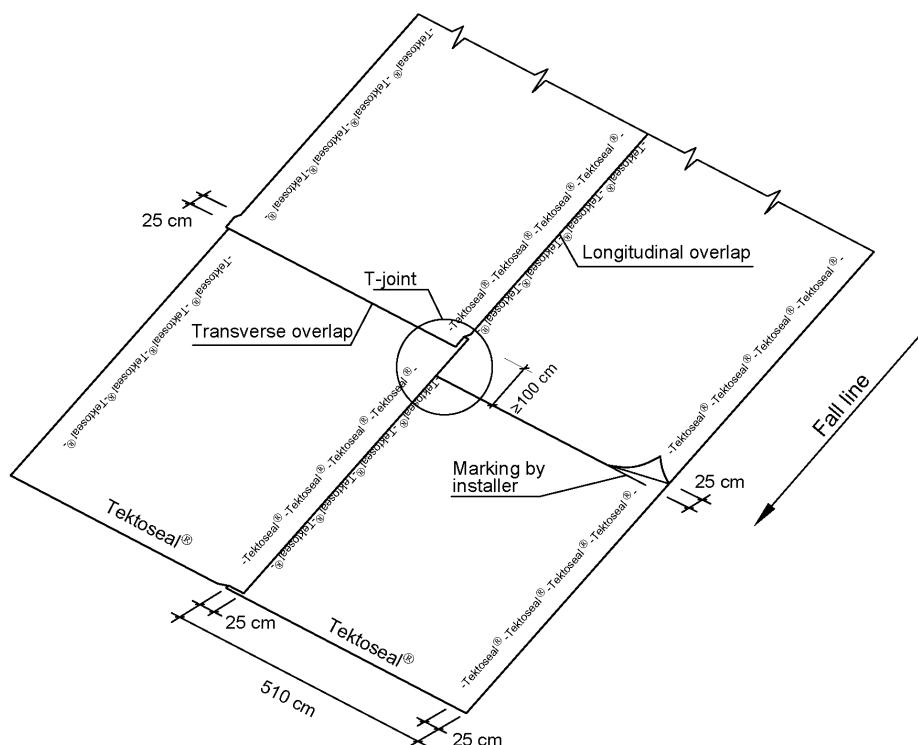

Fig. 5: Illustration of joints between Tektoseal® Clay+ liners
- T-joints shall be staggered by 1 m (Fig. 5); cross joints shall not be permitted.
Tektoseal® Clay+ longitudinal overlaps are self-sealing and 25 cm wide (Fig. 5, 6a). Additional bentonite sealing is not required here. The width of the longitudinal overlaps (along the length